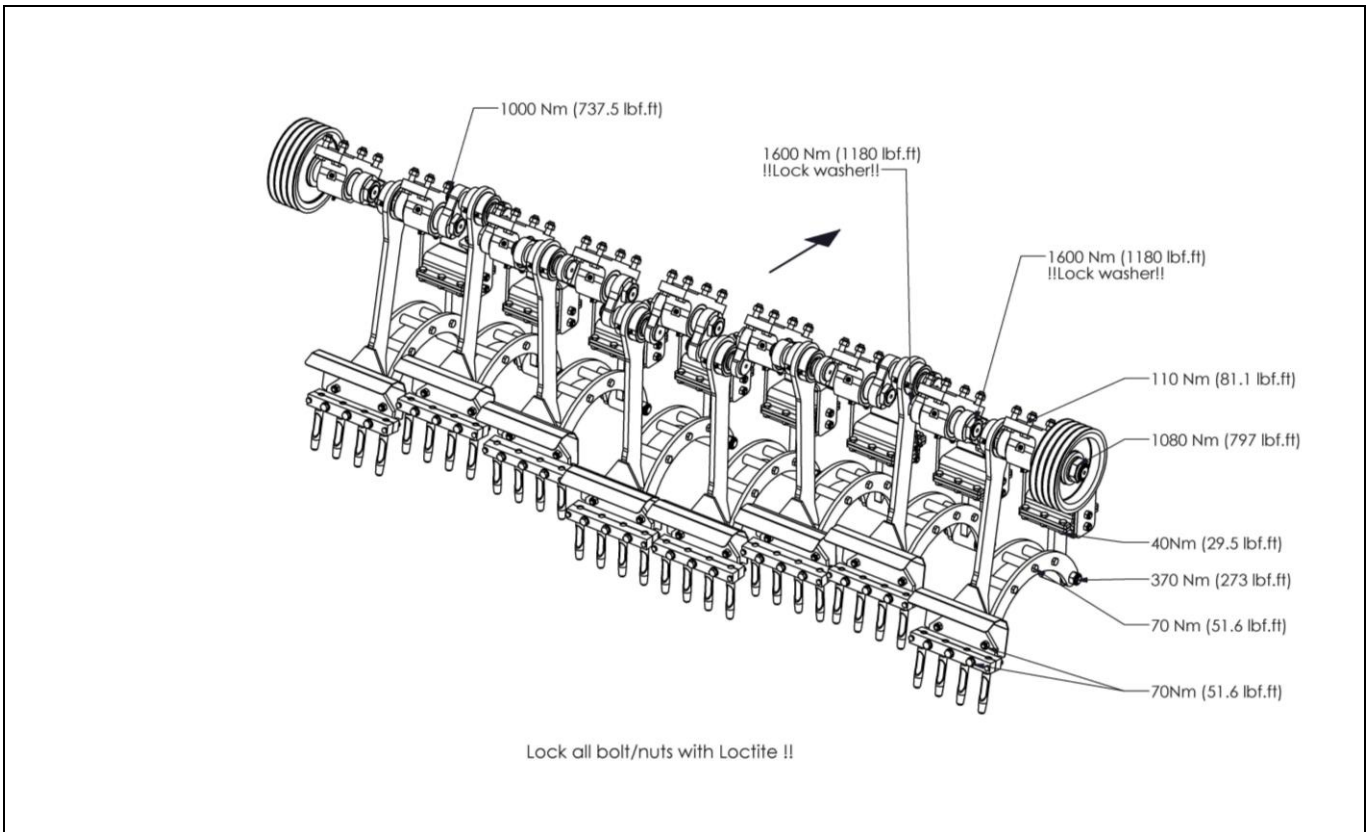

Fig. 16
A crank must be replaced when it has cracked or when the nuts of the big-end regularly come loose, i.e. the connection rod bearings, connection rod bearing fittings or the big-end pin holes in the crank are damaged. Replace the crank/bearings as soon as possible, in order to avoid any further damage to other parts, and do so as follows (see Fig. 16):
Fig. 16+17 shows the torques of the most important nuts/bolts. Make sure that bolts and nuts for which the torque is not shown here, are tightened with the same tightening torque as similar bolts and nuts. When bolts and nuts come loose, you can use Loctite to tighten them.
The opening of the tine (13) must always face the back of the machine, see Fig. 16.